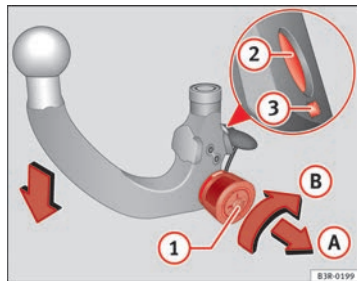

Fig. 158 Removable towing bracket: Setting the spring mechanism to the "ready" position
- Insert the key **(1)** ⇒ Fig. 158 in the lock on the knob and turn it towards the red marking.